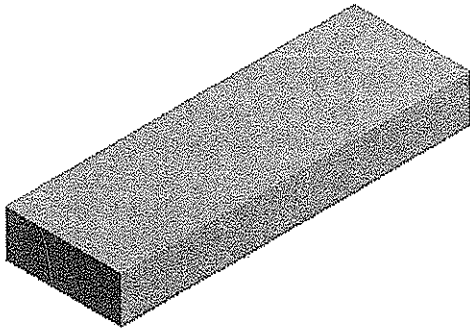
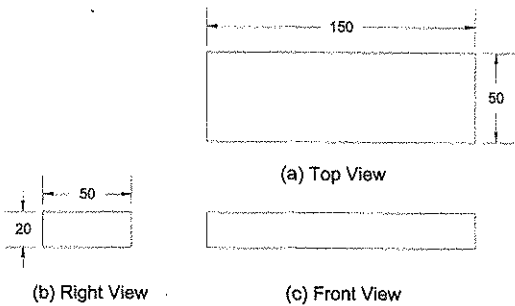

Figure 6-19 Model for Tutorial 2
Figure 6-20 Views and dimensions of the sketch of the model
In this tutorial, you will create the beam structure, as shown in Figure 6-19. The dimensions of the model are given in Figure 6-20. After creating the model you will assign it an existing Stainless Steel material from the library. **(Expected time: 30 min)**
5. Draw the sketch shown in Figure 6-20 according to the dimensions given.
6. Extrude the sketch to create the model by using the **Extrude** tool from the **Features** toolbar, refer to Figure 6-19.